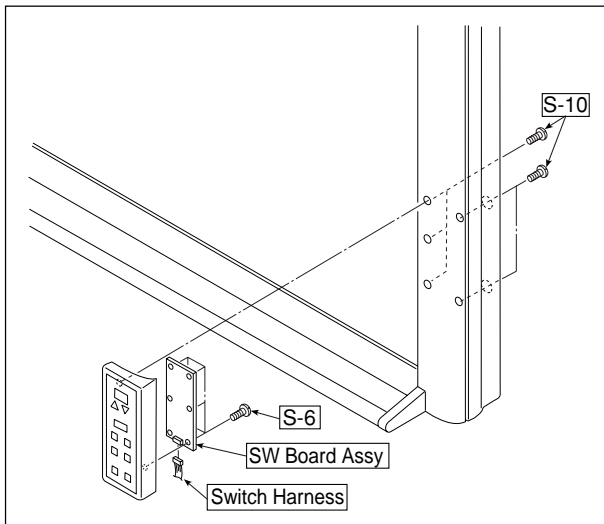

Fig. 11
6) Remove the Switch Board Assy. (See Fig. 11.)
1. Remove the "S-10" screw shown in Fig. 11.
2. Remove the "S-6" screw shown in Fig. 11 and then remove the Switch Board Assy.